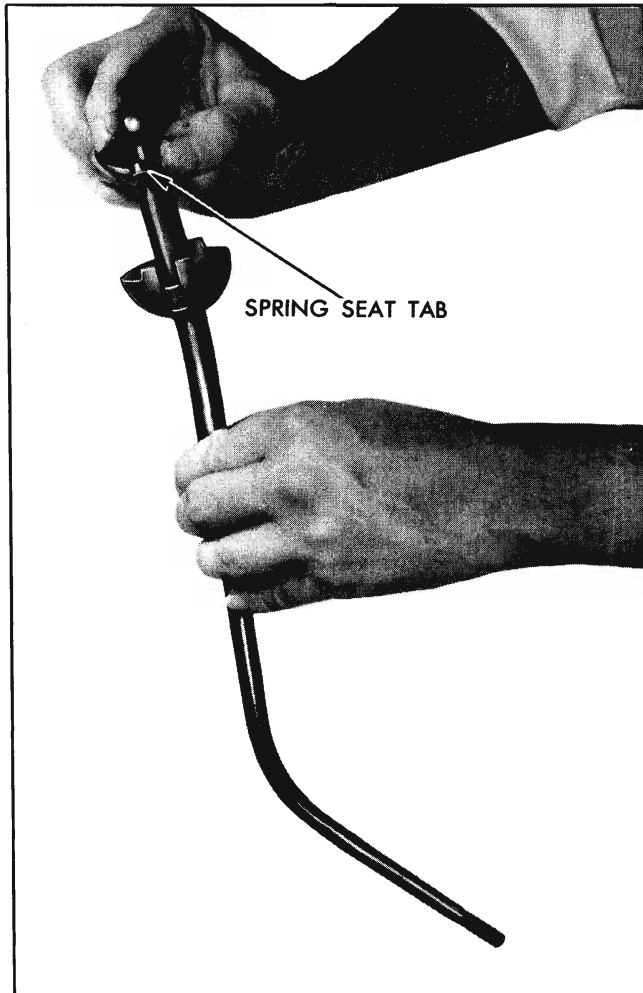

Fig. 7-15 Installing Spring Seat
3. Install control lever spring seat in control lever as shown in Fig. 7-15.